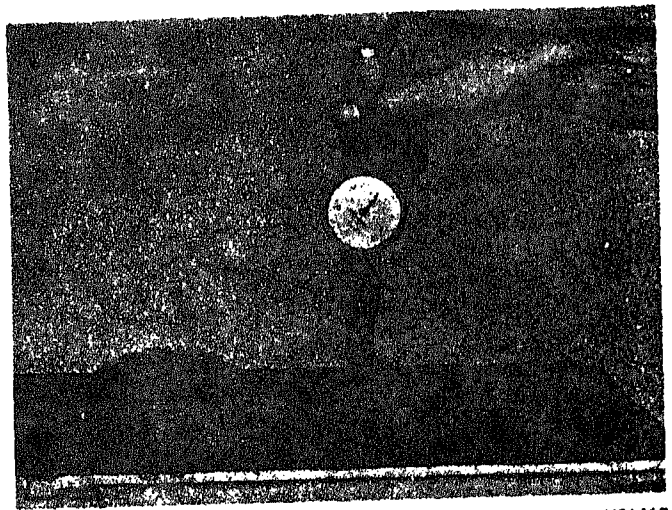

Fig. 14-1-12. Checking cylinder liner bore
- a. Check with a precision dial bore gauge, Fig. 14-1-12.